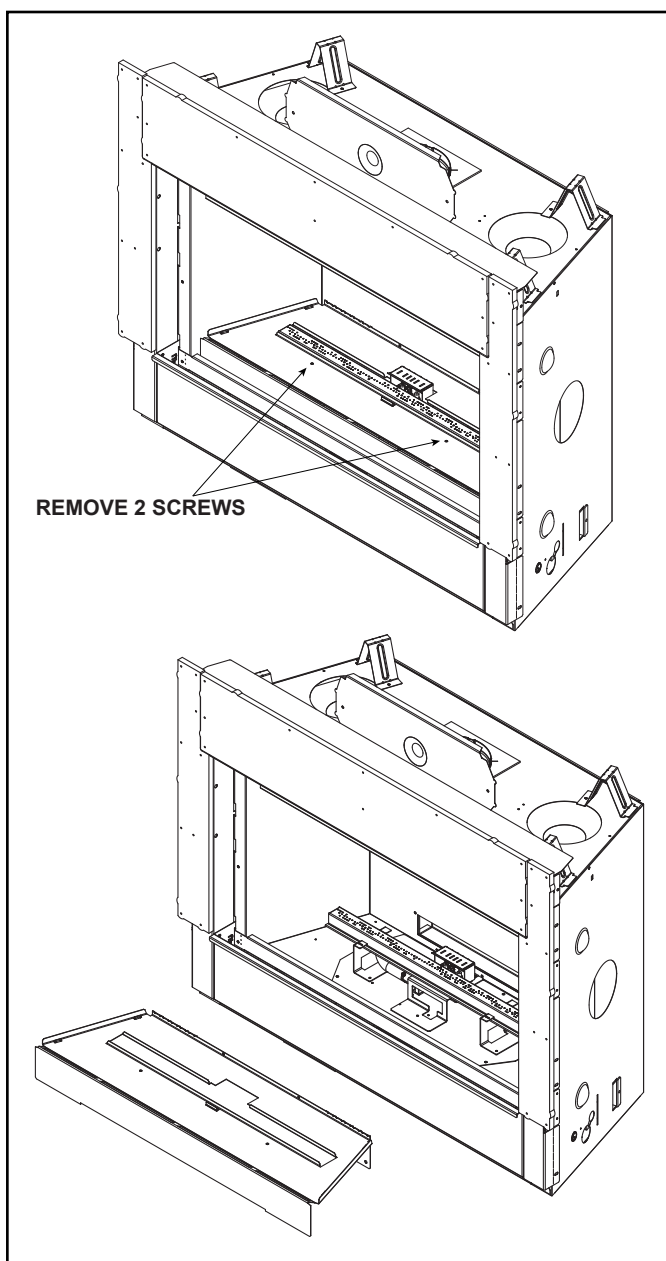

Figure 9.1 Basepan Removal - RAVE42-IFT-B Shown
1. Locate and remove the two screws that secure the basepan to the appliance. See Figure 9.1. Remove basepan. Retain screws.